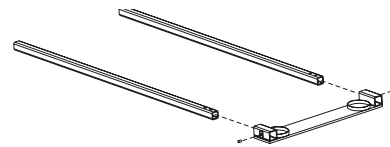

Figure 4-24
6. Install set screws (leave loose) as shown. Slide foot plate assembly onto legs. **See Figure 4-24.**